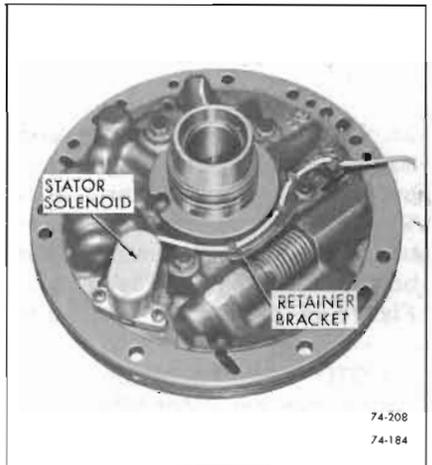

Figure 74-208
9. Install stator solenoid. See Figure 74-208.